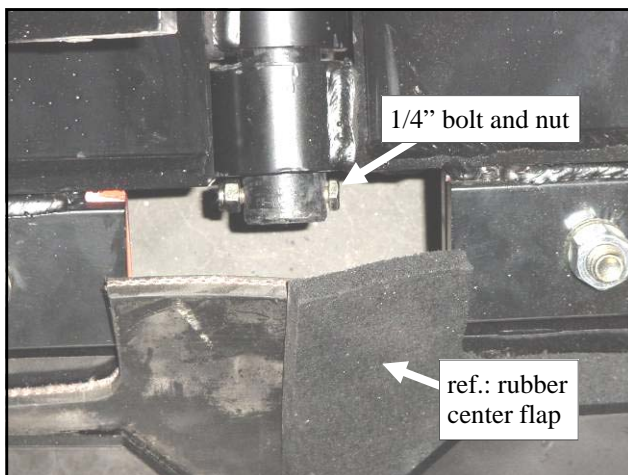
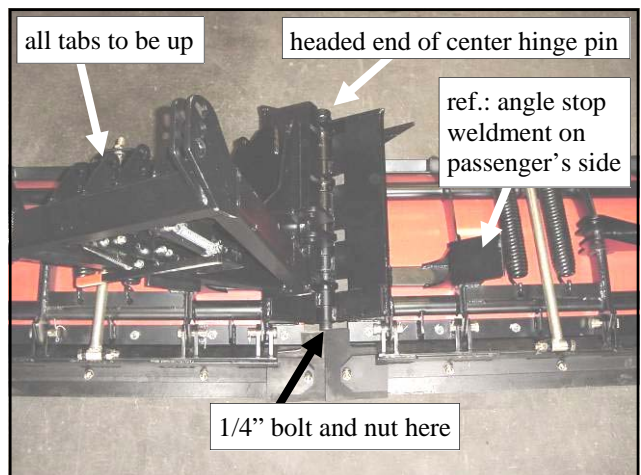

Fig. 1.3.1 (enlarged view of 1/4" bolt)
Fig. 1.3 (view of A-Frame assembly)
1.3 Per fig. 1.3, with assistance install the A-Frame weldment and the long center hinge pin as shown. The A-Frame tabs and the head of the center pin are up top in this view again. Wiggle the A-Frame assembly while an assistant pushes the center hinge pin all the way down until the head bottoms out. Pivot and rest the A-Frame weldment against the angle stop weldment on the driver's side as shown. Install one 1/4-20 x 1-3/4" long hex head bolt and locknut through the hole in the lower section of the center hinge pin where shown. See figure 1.3.1 for an enlarged view of the 1/4" bolt. Tighten the bolt.